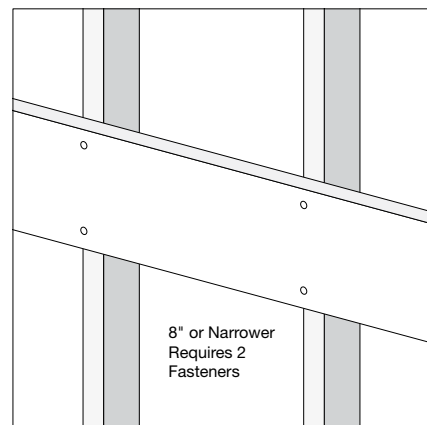

Fig. 5
- 8" or narrower Trimboard require two fasteners evenly spaced across the face of the board and fastened to 1-1/2" thick framing no more than 16" on-center (**Fig. 5**).